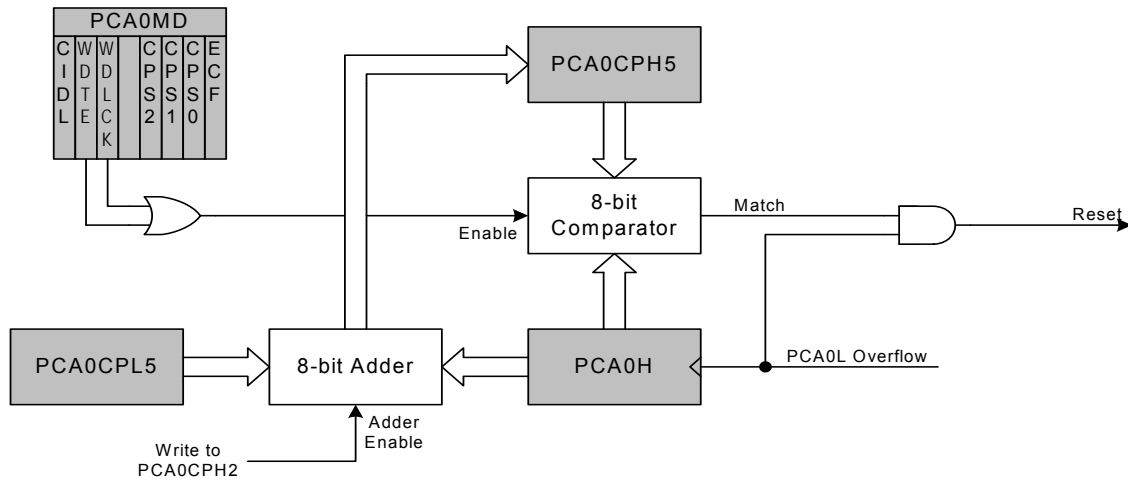

Figure 34.11. PCA Module 5 with Watchdog Timer Enabled
While the WDT is enabled, writes to the CR bit will not change the PCA counter state; the counter will run until the WDT is disabled. The PCA counter run control bit (CR) will read zero if the WDT is enabled but user software has not enabled the PCA counter. If a match occurs between PCA0CPH5 and PCA0H while the WDT is enabled, a reset will be generated. To prevent a WDT reset, the WDT may be updated with a write of any value to PCA0CPH5. Upon a PCA0CPH5 write, PCA0H plus the offset held in PCA0CPL5 is loaded into PCA0CPH5. (See Figure 34.11.)